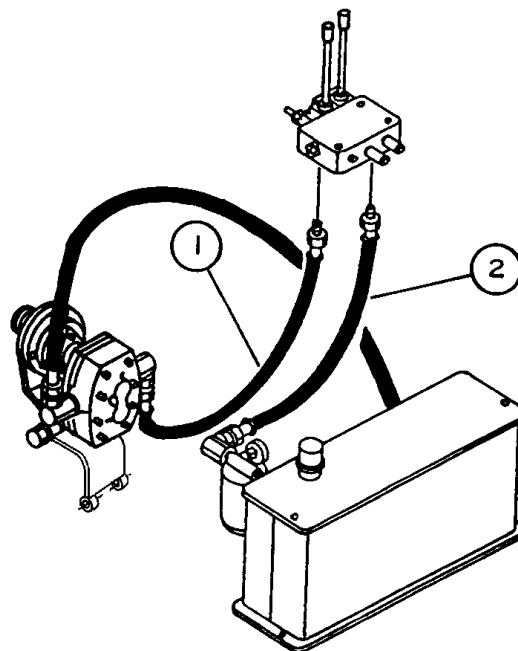

Figure 11
4. Attach adapter angles (fig.6, item 1) to loader arm adapters (fig.6, item 2) using four 5/8" x 3" x 4 1/2" U-bolts (fig.11, item 3), eight lockwashers and nuts. Do not tighten.
4. Install 1/2" x 42" hose (fig.11, item 1) from the inlet valve port to the outlet hydraulic pump port.
5. Connect 1/2" x 30" hose (fig.11 item 2) from the outlet valve port to the tank filter port.